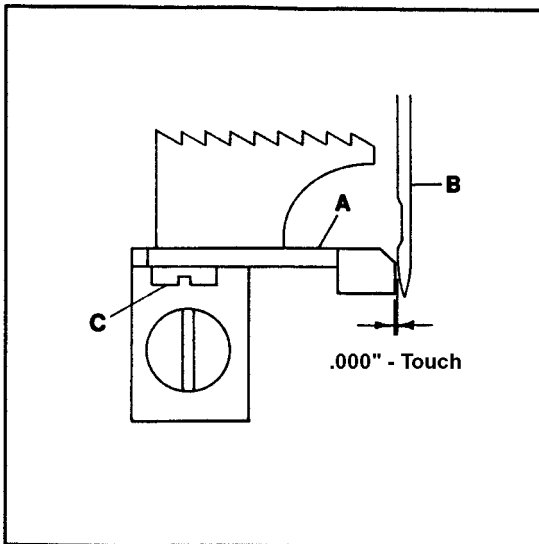

FIG. 18
Set rear needle guard (A, Fig. 18) so it touches the first (left) needle (B) but does not deflect. Check the guard position to the other needles to avoid pinching. Loosen screw (C) and reposition guard (A) as necessary. Tighten screw (C).